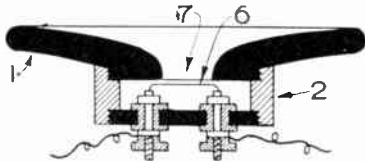
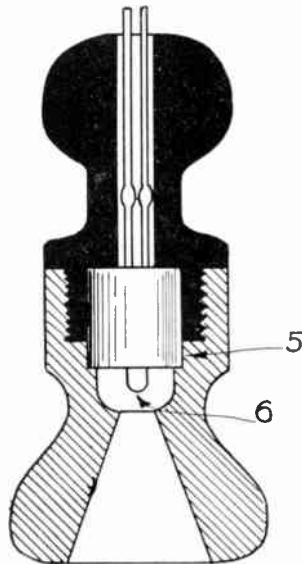

Fig. 1. A straight wire thermic telephone with outside ear-piece.
Fig. 2. Looped wire thermic telephone for the aural canal.
The frame carries a glass plate (5) of the same dimensions as the license plate. The window thus formed is painted on the outside (Fig. 1), in duplication of the license plate, using a semi-opaque white for a background (A) and a transparent red for the figures (B). On the inside (Fig. 2) the letters "Stolen" (C) are painted with a transparent blue. The letters must be reversed so that they may be read from the outside. A piece of stiff spring wire is bent so that it will hold the glass in the frame (4) (Fig. 4).
1907 (Fig. 1). The ear cap of ebonite (1), with an opening (7), which may be closed if desired by a membrane, is fastened to a metallic case (2), whose interior surface is nickel- or gold-plated. Two rods, insulated from the case and to
Fig. 2 shows a thermic receiver made to be introduced into the auditory canal; the thermic wire (6) projects from the insulating piece (5); the wire is connected